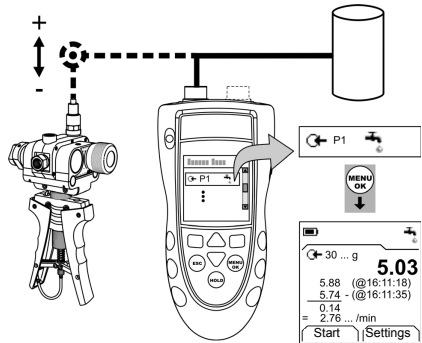

Figure 3: Example configuration - Leak test
1. Connect the instrument (Figure 3) and, if necessary, adjust the *Set Up* (Table 1).